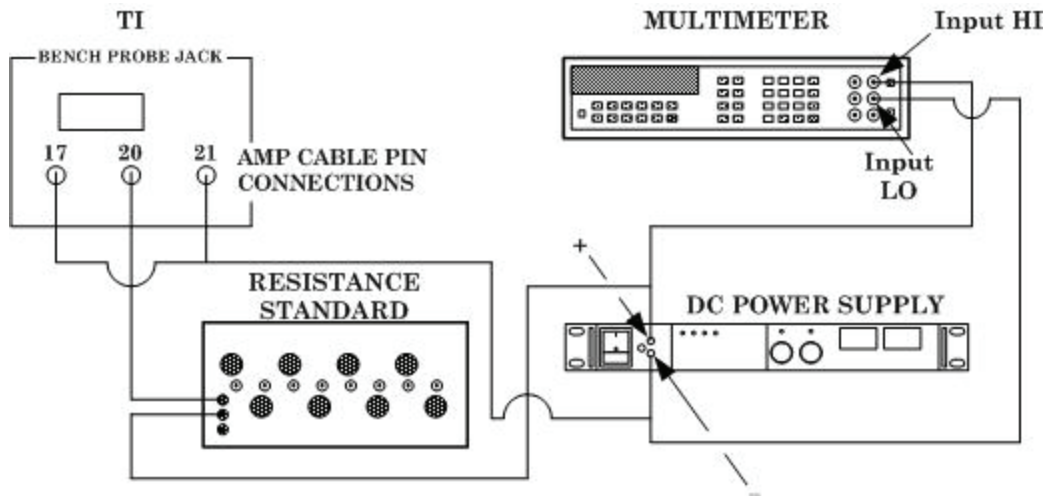

Figure 4. Monitoring (THERM) equipment setup.
- (1) Set **MONITOR** switch to **VOLTS**.
- (2) Adjust DC power supply for 19.90 volts on multimeter.
- (3) Set TI power switch to **ON**.
(4) TI digital indicator will indicate between 19.87 and 19.93 volts. If not, perform **b** below.
(5) Set TI power switch to **OFF** and disconnect DC power supply leads from TI AMP connector pins 9 and 10.
(6) Connect equipment as shown in fig. 4, and adjust resistance standard to 470 ohms.